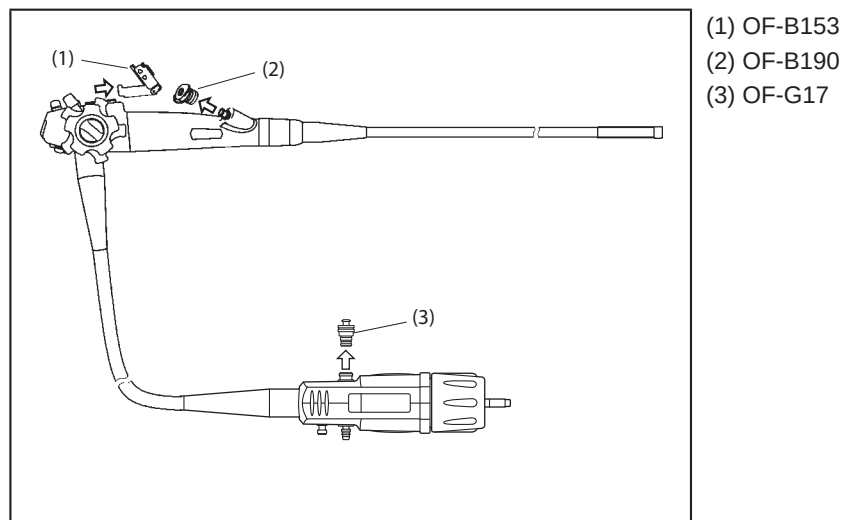

Figure 1.2.22
- 2) Detach the inlet seal (OF-B190) and cleaning adapters (OF-B153 and OF-G17) from the endoscope. Open the cap of OF-B190. (see Figure 1.2.22, p28)
- 17) Detach OF-B190, OF-B153, and OF-G17 from the endoscope. (see Figure 1.2.22, p28)